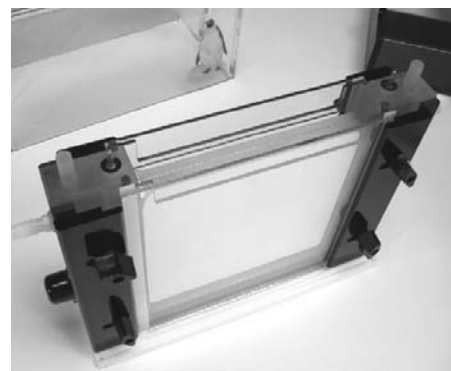

Figure 4-1. Single or Dual Gel Assembly
1. Assemble the gel cassette which is comprised of two glass plates, one blank glass plate and one notched, offset or alumina plate, with spacers between them, running up the left and right sides of the glass (Figure 4-1).